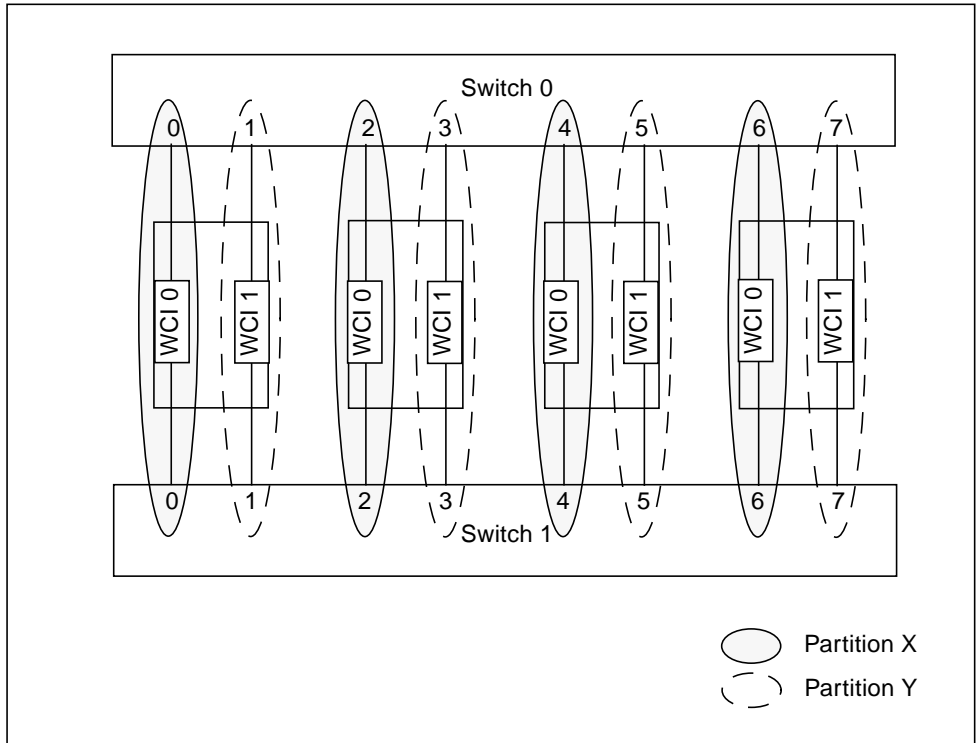
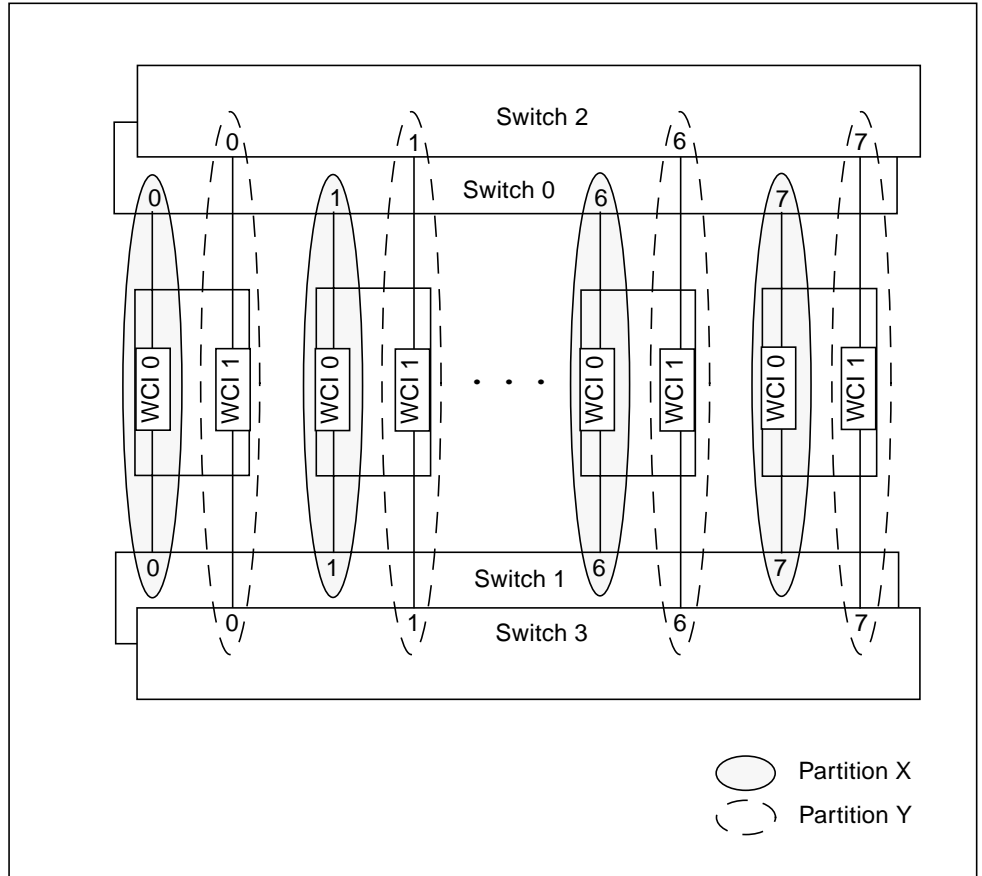

FIGURE 6-3 Dual-Controller Example – Four Nodes, Two Switches, Two RSM Controllers per Node
FIGURE 6-4 Dual-Controller Example – Eight Nodes, Four Switches, Two RSM Controllers per Node
To achieve this, each domain's two Sun Fire Link ASICs are mapped into separate partitions, and separate RSM controllers are allocated to manage the two partitions. One ASIC and the two optical ports it controls function as the primary network interface. The other ASIC is brought into use if the primary network interface should fail. FIGURE 6-3 and FIGURE 6-4 show examples of dual-controller cluster configurations.
- The two Sun Fire Link assemblies in each node must be divided between the two partitions, as shown in FIGURE 6-3 and FIGURE 6-4.
- If your cluster contains two switches, both switches must be shared by the two partitions. That is, each switch must be assigned to both partitions. See FIGURE 6-3.
- If your cluster contains four switches, two of the switches must be added to one partition and the other two must be in the other partition. See FIGURE 6-4.
- If your cluster contains two switches, both switches must be shared by the two partitions. That is, each switch must be assigned to both partitions. See the example in FIGURE 6-3.
- If your cluster contains four switches, two of the switches must be added to one partition and the other two must be in the other partition. See the example in FIGURE 6-4.